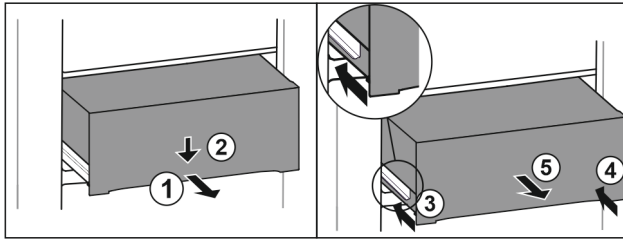

Fig. 146
- Pull out drawer half-way. Fig. 146 (1)
- Push the drawer down at the front. Fig. 146 (2)
- Push the left rail in by about 2 cm. Fig. 146 (3)
- Push the right rail in by about 2 cm. Fig. 146 (4)
- Remove drawer to the front. Fig. 146 (5)